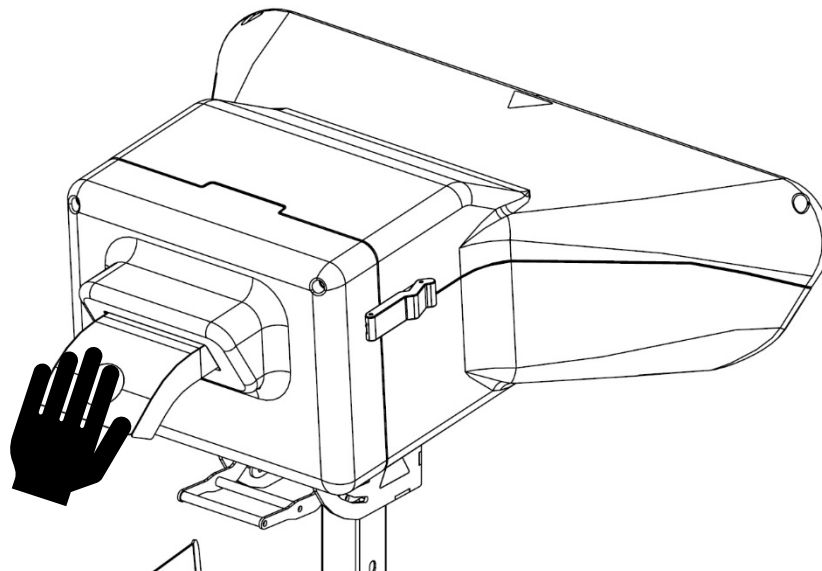

Figure 17 Dispenser Head
2. Pull the **Dispenser Head Angle Adjuster Handle** down with one hand (refer to Figure 17).